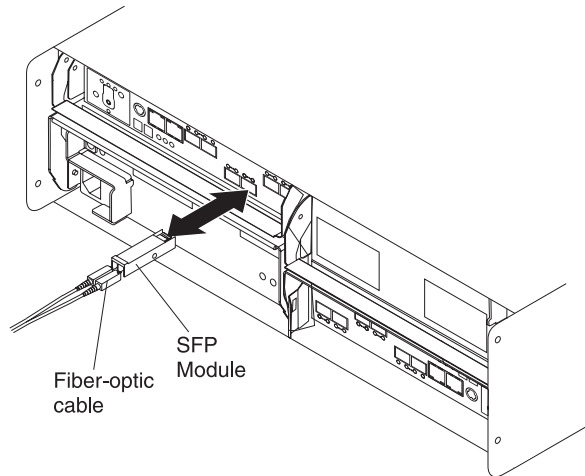

Figure 26. Installing an SFP module and LC-LC cable in a supported DS5020 storage subsystem
2. Connect an LC-LC fibre-optic cable into the SFP module, as shown in Figure 26.
Note: Figure 26 shows a DS5020 Storage Subsystem. The DS5020 Storage Subsystem is shown for illustrative purposes only.